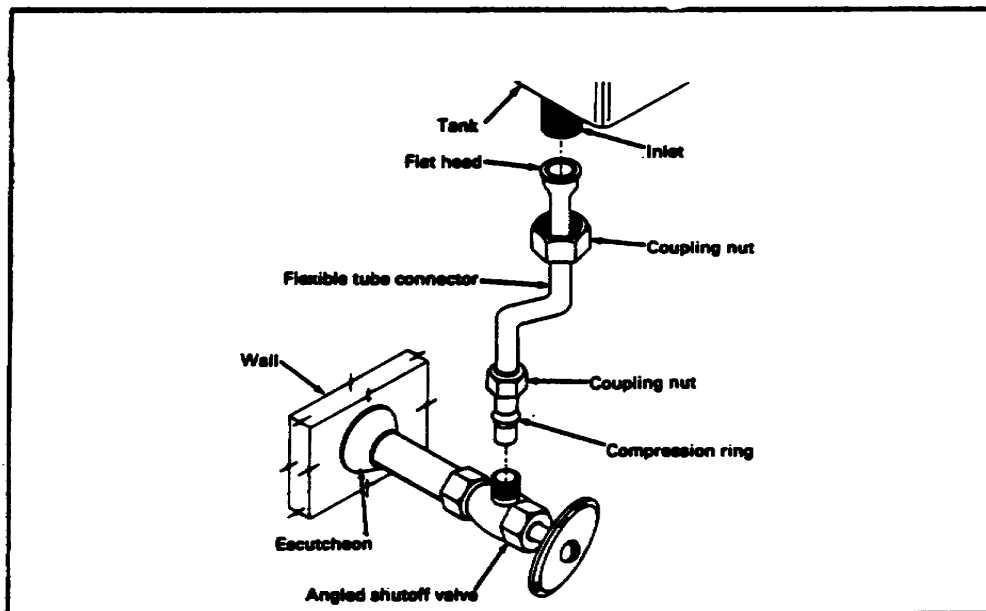

FIGURE 31. INSTALLING WATER SERVICE TO WATER CLOSET TANK
**Installing water service to a water closet tank.** Use the following steps to install water service to a water closet tank (see Figure 31):